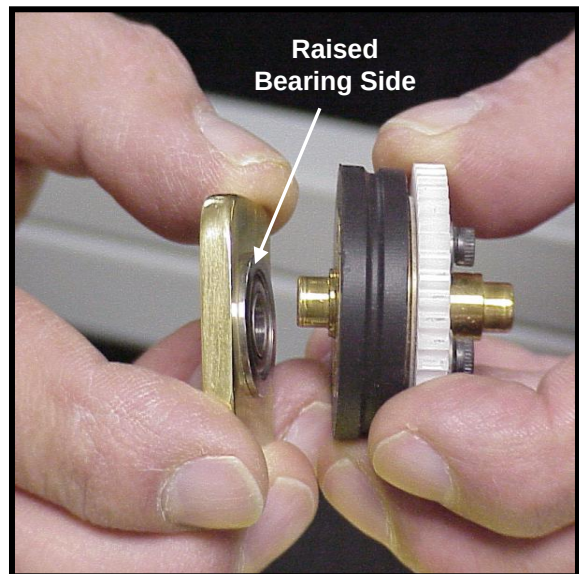

Figure 45
14.3.2.10 Slide the Drive Wheel-side Bearing Hanger back onto hub shaft with the raised Bearing pointing inward toward the Drive Wheel. See Fig. 45